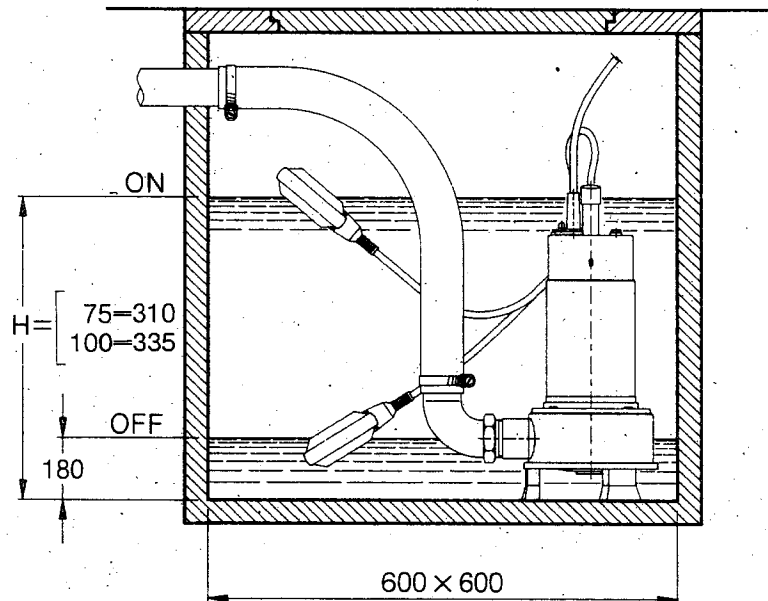

fig. 2 - Abb. 2 - fig. 2 - kuva 2 - afb. 2 - fig. 2 - εικ. 2
15.2. SCHEMA INSTALLAZIONE CON SPAZI FUNZIONALI MINIMI (fig. 2)
15.2. DIAGRAM FOR INSTALLATION MED MINIMUM FUNKTIONSPLADS (fig. 2)
15.2. DIAGRAM FOR INSTALLATION WITH MINIMUM FUNCTIONAL SPACES (fig. 2)
15.2. DIMENSIONS MINIMALES DU PUISARD (fig. 2)
15.2. SCHEMA INSTALLATIE MET MINIMALE FUNCTIONEEL RUIMTES (afb. 2)
15.2. INSTALLATIONS-SCHEMA MIT MIN. FUNKTIONS-RÄUMEN (Abb. 2)
15.2. ESQUEMA DA INSTALAÇÃO COM ESPAÇOS FUNCIONAIS MÍNIMOS (fig. 2)
15.2. ESQUEMA INSTALACION CON ESPACIOS FUNCIONALES MINIMOS (fig. 2)
15.2. INSTALLATIONSRTNING, MINSTA DRIFTUTRYMME (fig. 2)